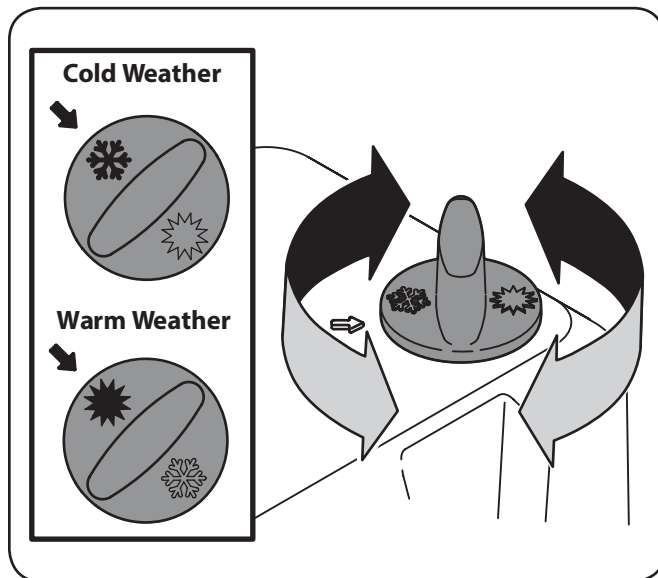

Figure 5-5
1. In colder months, especially when operating the snow throwing attachment, turn the knob to the position in which the snowflake on the knob aligns with the arrow on the air filter cover. See the top portion of the inset in Figure 5-5.
2. In warmer months, most likely when operating the pressure washer, cutting deck, etc., place the weather control knob in which the Sun image on the knob aligns with the arrow on the air filter cover. See the bottom of the inset in Figure 5-5.